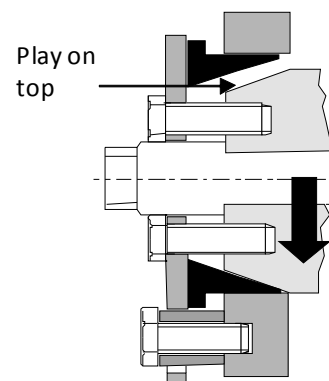

Fig. 5 A heavy load on the bolt prevents complete tightening. Unload the bolt before tightening.
- b) the play in the support is too great for the taper sleeve (exceeds 2 mm). Switch to over-sized taper. Tighten the plate screws/nut and centre shaft to the specified torque in order to expand the taper sleeves. First "unload" the equipment. The weight of the equipment may prevent effective tightening (see Fig. 5).